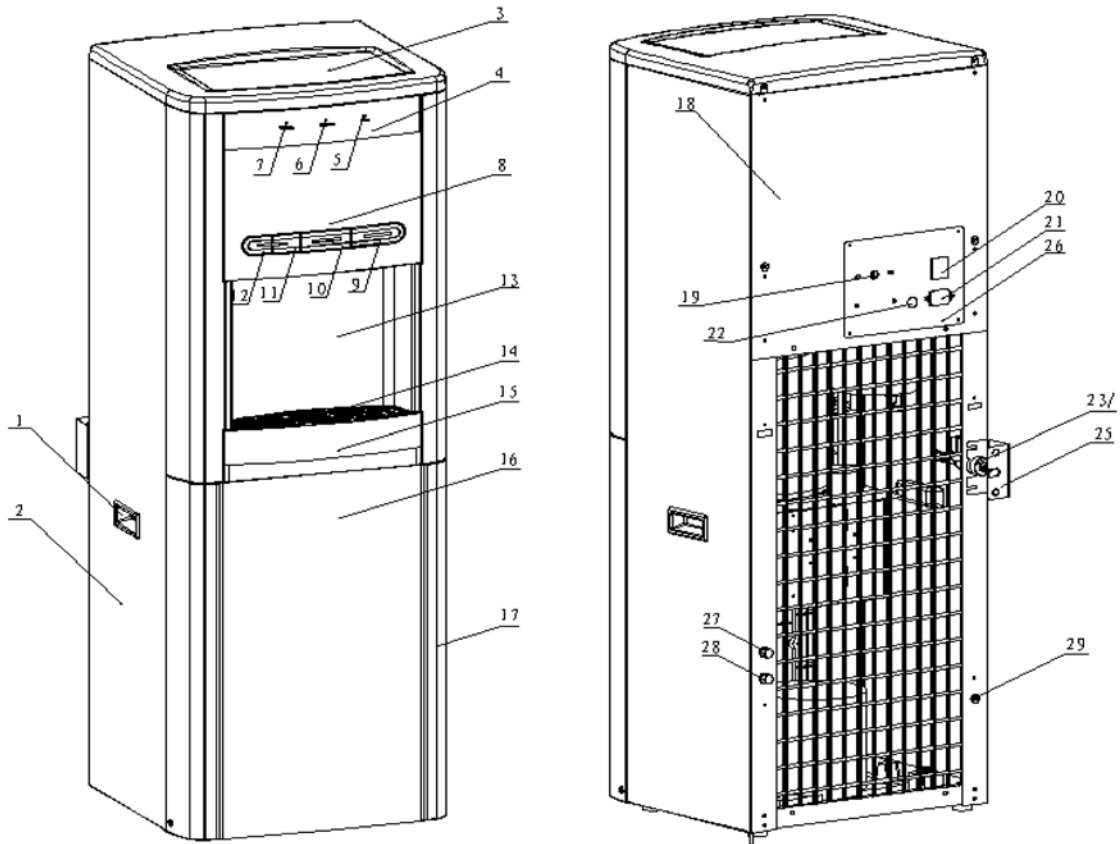

Figure 2
3. Connect the power cord to a power supply. (15A with GFI is recommended). The power LED will be illuminated on the front of the unit. (Figure 2, item 5).
- Turn ON the red power switch. The compressor and hot tank heater systems will begin to operate. The red heater LED (not the word “heater” but the LED above the word “heater”), and the blue chilling LED on the front indication panel of the machine will be illuminated. (Figure 2, items 6 and 7)
- Twist-off the cold and hot drain caps on the back of the unit. (Figure 2). Drain the PURA Ultimate completely, and replace the drain caps.